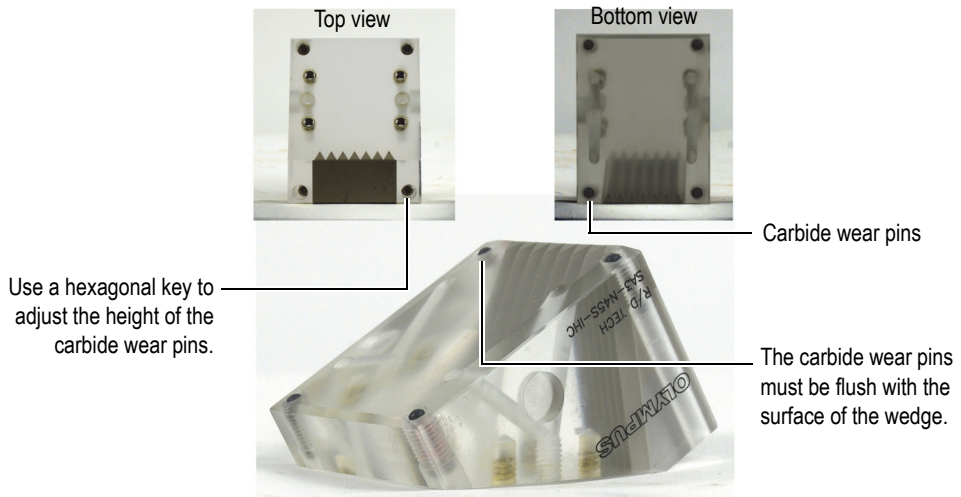

Figure B-1 Wedges— Adjusting the carbide wear pins
Wedges are designed to hold a transducer or a phased array probe in order to ensure an adequate ultrasonic diffusion through the surface being inspected, and to direct the couplant flow correctly. To limit wear of the wedge, carbide wear pins can be inserted at each corner of the contact surface of the wedge (see Figure B-1 on page 91).
2. Use a hexagonal key to adjust the height of the carbide wear pins on each installed wedge. Ensure that the top of each pin is flush with the surface of the wedge (see Figure B-1 on page 91).